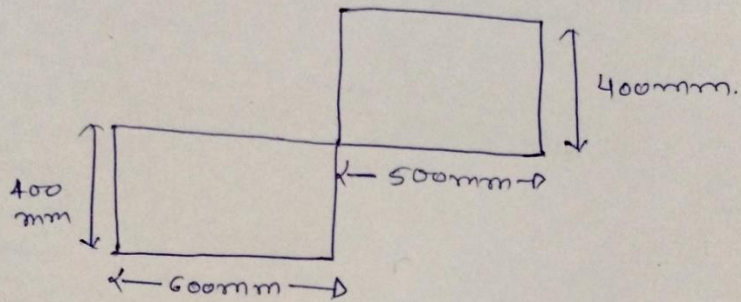

Fig. 2
- (c) Find out moment of inertia of FIG 2 about x-x axis 04